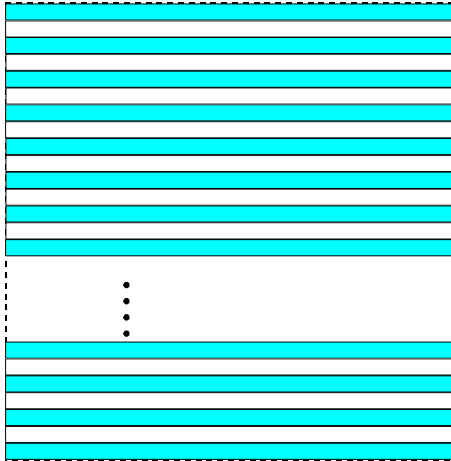

Fig. 125: Decimation of 2 (Mono Cameras)
- 2 for mono cameras: only every second row of the acquired frame will be transmitted out of the camera (Figure 125).